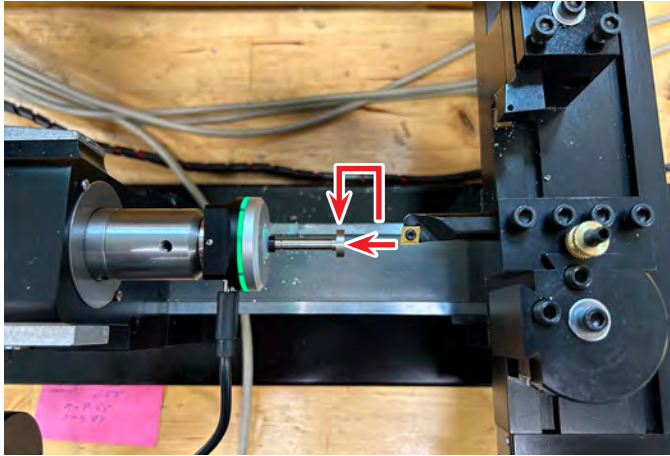

FIGURE 25
B. The boring tool will now touch off on the touch probe as shown below (see Figure 25).